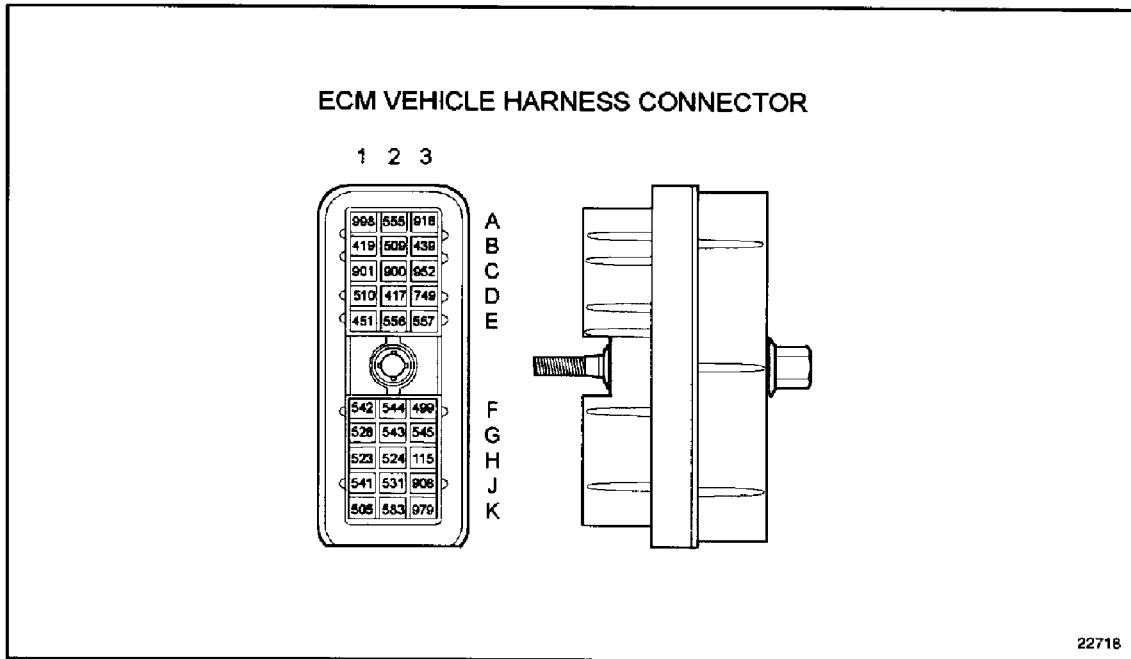

Figure 10-9 ECM Vehicle Harness Connector
1. Check the terminals at the vehicle harness and 5-way power harness connectors (both ECM and harness side) for damage: bent, corroded and unseated pins or sockets. See Figure 10-9.